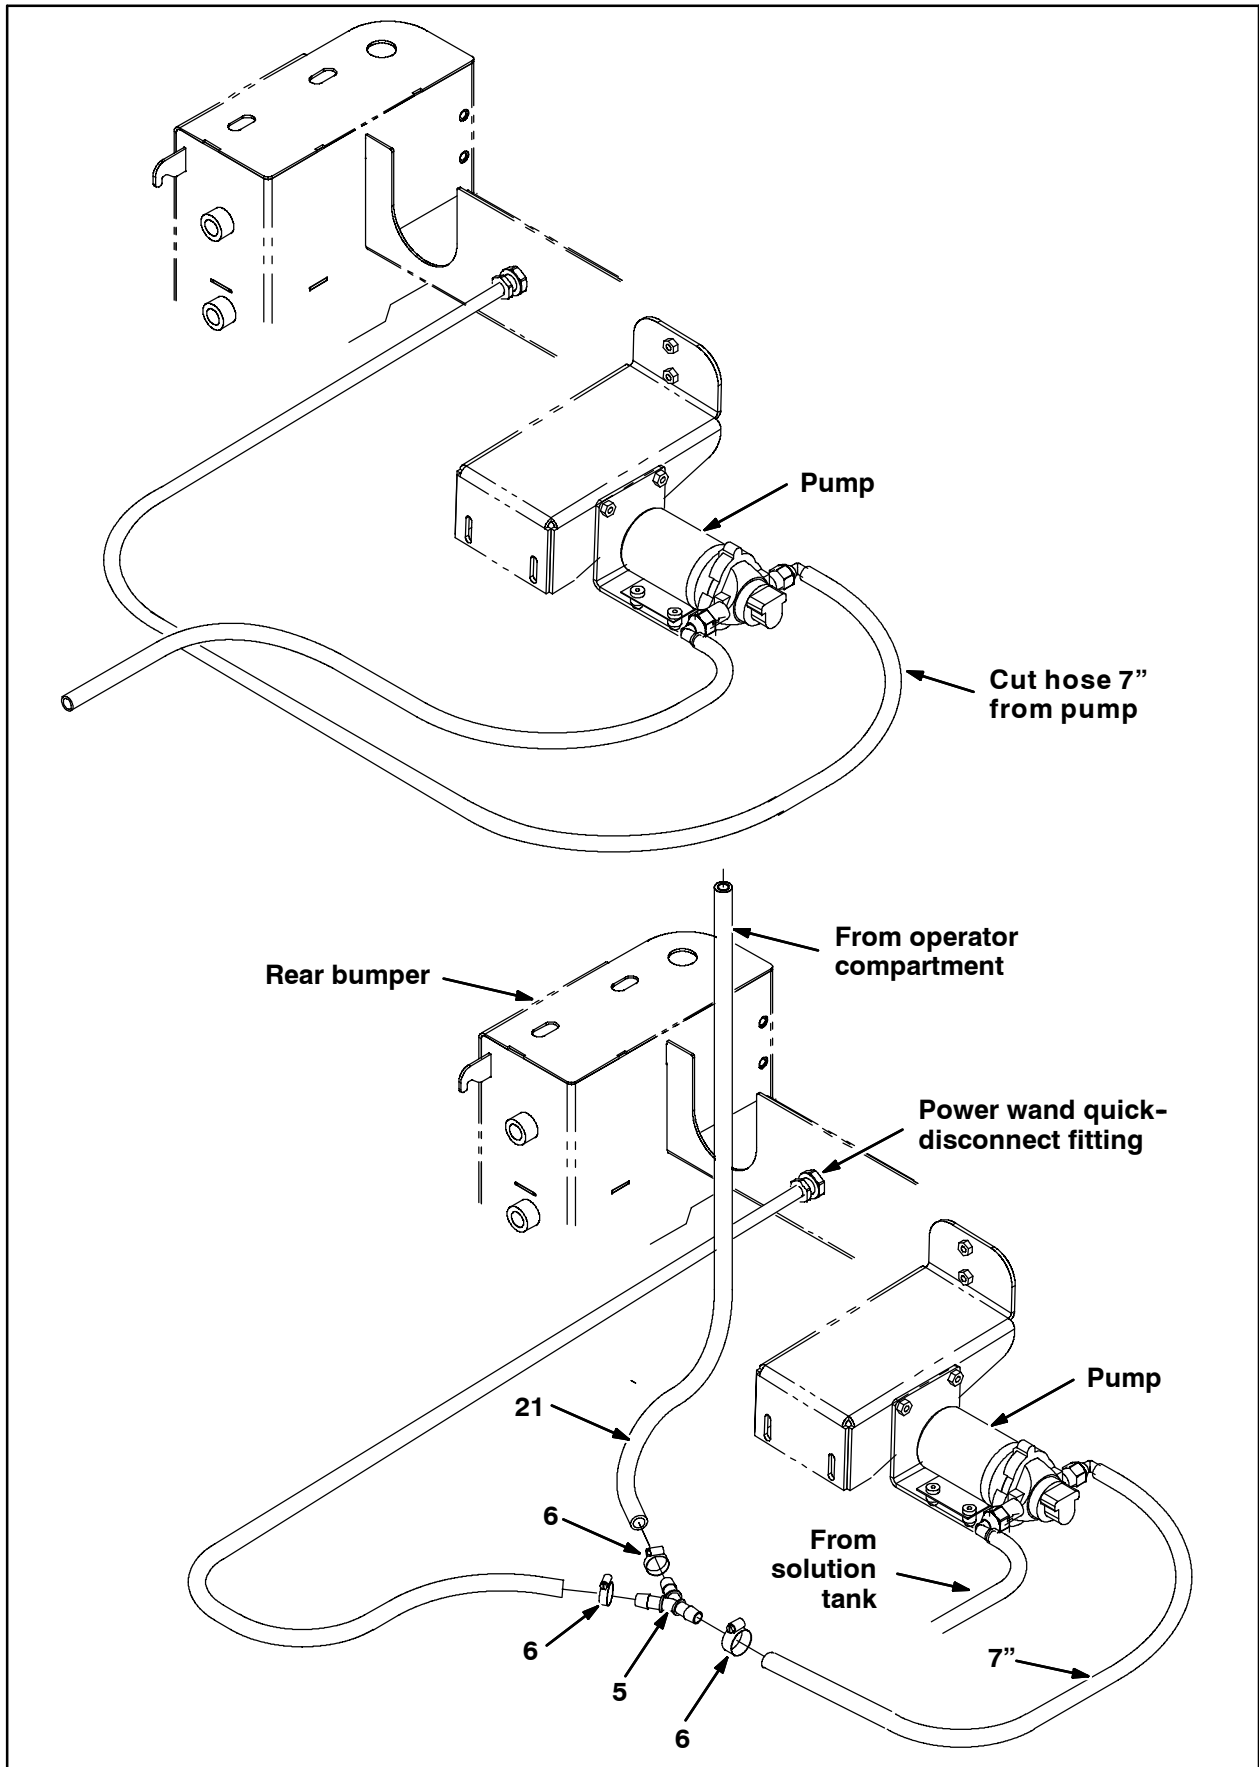

FIG. 1
1. Cut the hose connected to the outlet port on the pump approximately 7" from the pump. Refer to Fig. 1.
2. Use a hose clamp (6) to connect the y-fitting (5) to the 7" hose connected to the pump outlet port. Refer to Fig. 1.
3. Use another hose clamp (6) to connect the loose end of the hose from the power wand quick-disconnect fitting on the rear bumper to the y-fitting (5). Refer to Fig. 1.